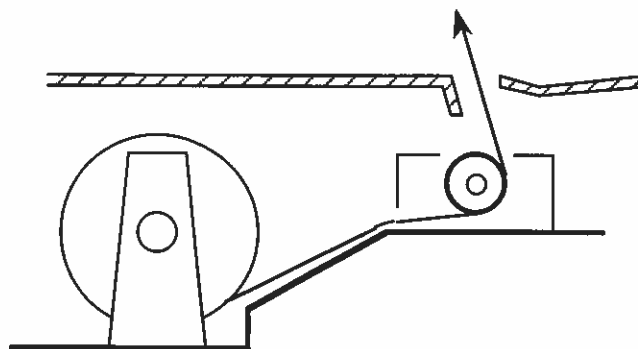

Figure 2.4.5. Paper Loading
5. Feed the paper from the top of the roll as shown in figure 2.4.5 below and push it through the slot in the rear of the printer mechanism.